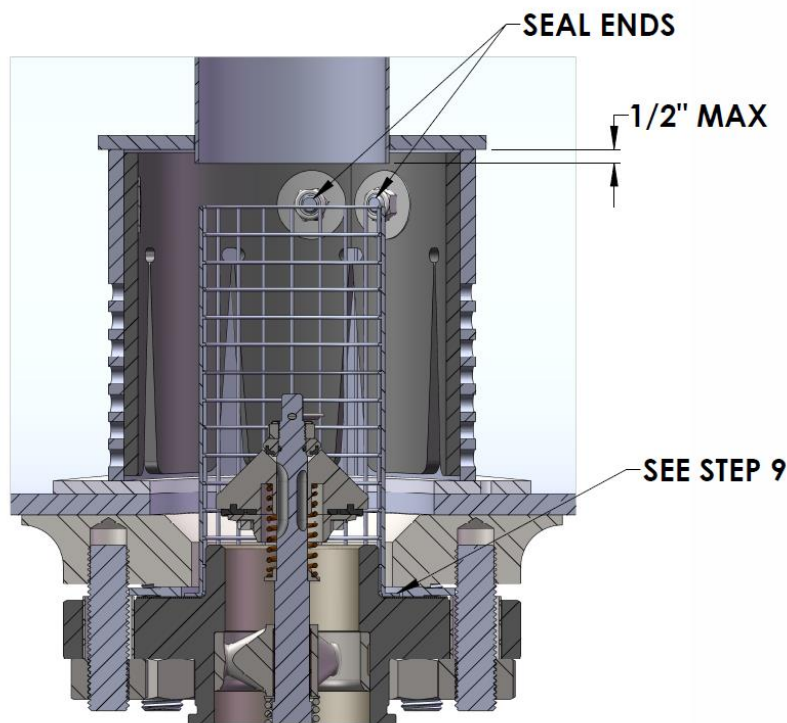

FIGURE 1
6. Manipulate Seal so hole in end is aligned with stud as shown (Figure 1) and press seal onto stud.